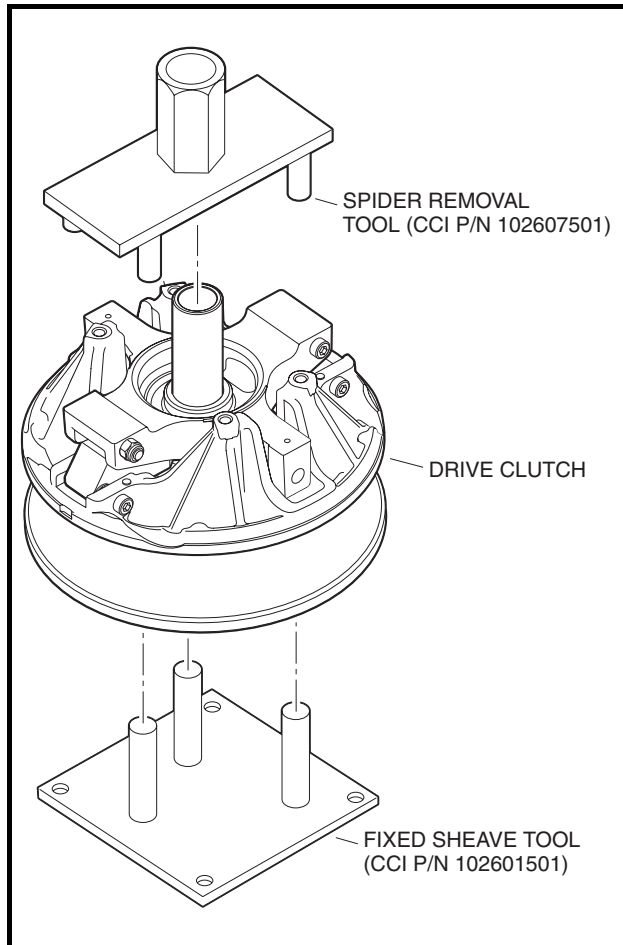

Figure 13b-36 Drive Clutch Service Tools
- **Use only a dry cloth, and lightly wipe the shaft of the fixed face assembly (15) (Figure 13b-37, Page 13b-35). Do not use a brush or steel wool. These abrasives will damage the surface of the shaft.**
1. Use a 7/16-inch socket to remove the four bolts (1) and washers (2) that secure the plate (3) to the clutch cover (4) (**Figure 13b-37, Page 13b-35**).
2. Remove the cover (4) and spring (5) from the clutch spider (6).
3. Inspect the torque rollers (7), weights (11) and rollers (10). Replace if necessary.
4. Secure the Fixed sheave tool (CCI P/N 102601501) into a vice, or mount the tool to a flat work surface (**Figure 13b-36, Page 13b-33**).